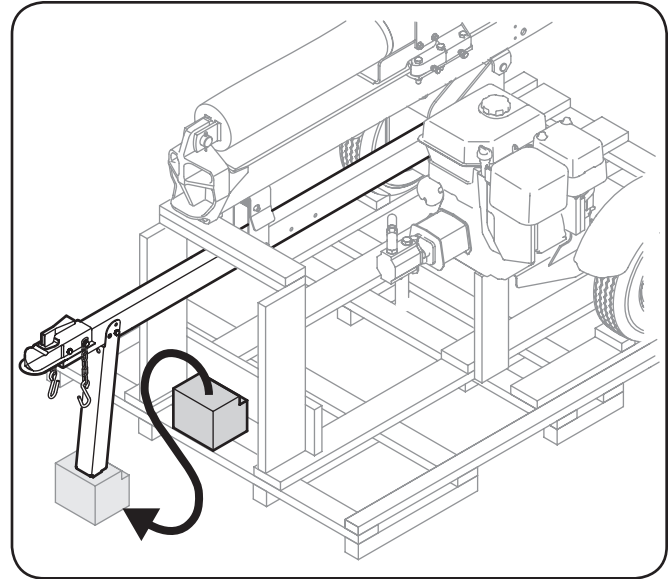

Figure 3-5
3. Carefully pry the small block of wood from the base of the crate and position it beneath the jack stand. See Fig. 3-5.